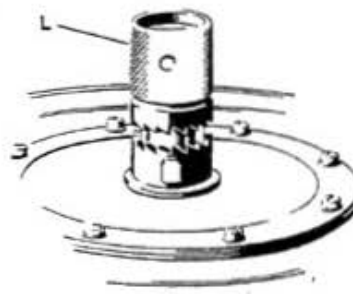
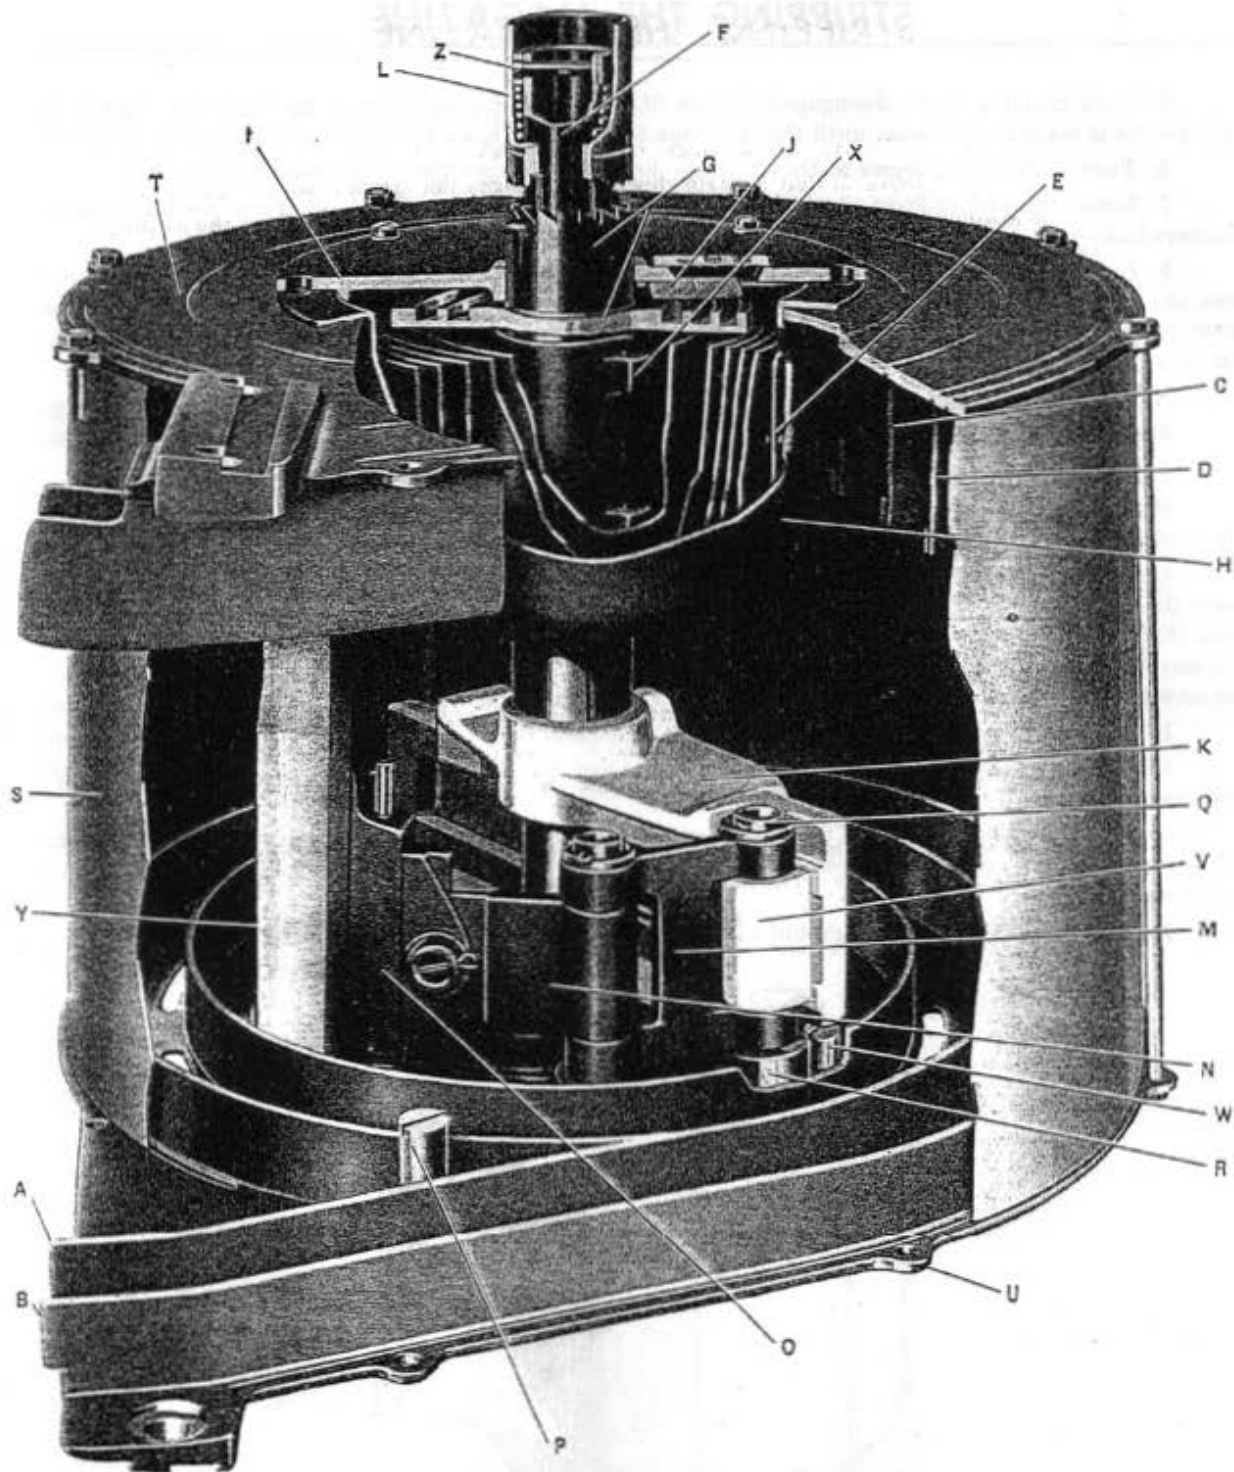
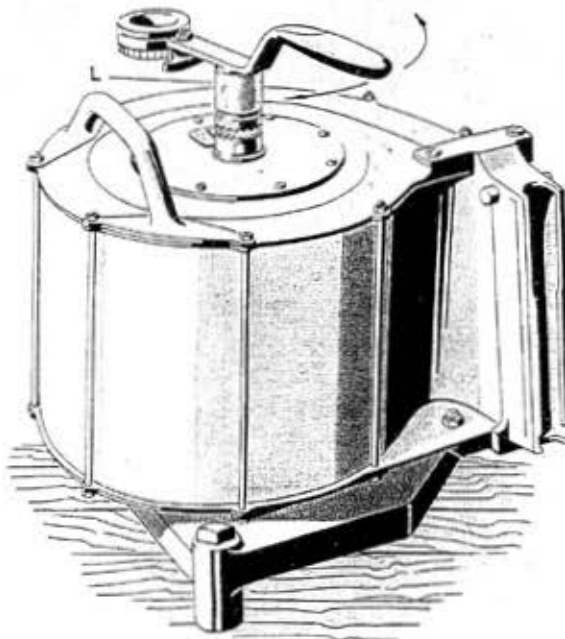

Figure 61
Figure 65—Magazine
Figure 66—Magazine loading lever on main shaft (feed axis)
2. The tension of the spring causes pressure on the ratchet teeth of coupling sleeve shown in Figures 59, 60 and 61. Therefore, press counter-clockwise on the loading lever to relieve this pressure, and at the same time disengage the coupling sleeve with the other hand by pulling outward, Figure 60, and turning about one-eighth turn, so that the sleeve stays disengaged. See Figure 61.
4. Install the loading lever on the spring axis as shown in Figure 66, and relieve spring pressure as instructed on Page 72. Steps 2, 3, 4 and 5.
The following are the references on Figure 65:
5. With coupling sleeve disengaged, Figure 61, place the loading lever on the feed axis, Figure 66, and revolve it counter-clockwise, until the cartridge feeder (O), Figure 65, is at the inner end of its travel.
8. Hold the loading lever in the position described in Step 7, and remove the two remaining screws from the cover plate (I), Figure 65. Keep the loading lever in the position given in Step 7, and loosen the cover plate (I) from the magazine with a screw driver or suitable tool, being very careful not to pry up the spring casing flange.
10. Rotate the spring housing assembly until one of the holes in the coupling sleeve is in line with the head of ratchet cross pin (Z), Figure 65.
11. Lift spring case (H) containing spring (E) accompanied by the spring axis (G) until its flange clears the dowel screw in the front plate (T), and turn it until the letters "D" in the front plate (T) and cover plate (I) are in line. As the spring and case are supplied as an assembly under part number (299709) it is not necessary to remove the spring from the case. If either part is damaged, replace with the new assembly. Remove the spring axis (G) by twisting it in the spring to disengage lugs (X) from the holes in the spring.
12. Remove the snap ring from the rear end of the main shaft (F), using pliers (OE-1608) in tool roll.
13. Remove the complete main shaft (F), feed block (K), feeder link (M) and cartridge feeder (O) from the front.
14. The feeder link (M), feed block (K), and cartridge feeder (O) can be separated by removing the bolt cotter pins and tapping out the two articulating bolts (Q), and feeder swivel bolt, using (OE-1613) punch in tool roll.
15. The magazine casing (S) should not normally be stripped into its component parts.
5. Place the cover plate (I) on the magazine, and do **not** install any screws in it. Move the indicator block (J) with a knife blade, or any similar tool, so that it engages in the spiral groove on the spring axis (G), Figure 65.